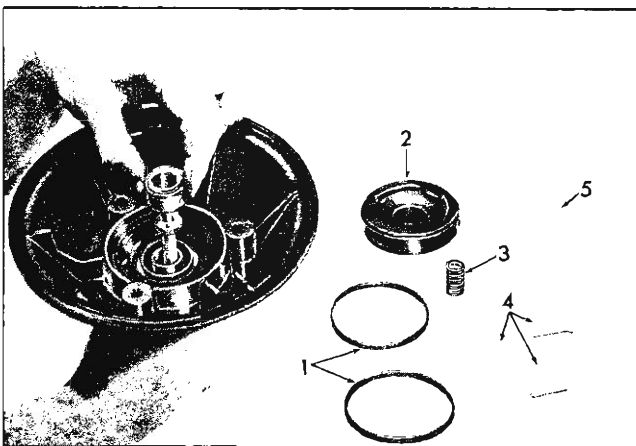

Fig. 27—Removing Air Valve Push Rod Assembly
9. Install "O" ring and snubber on air valve, and position push rod through floating control valve and into piston extension so that push rod passes through the loading slot in extension (fig. 27).